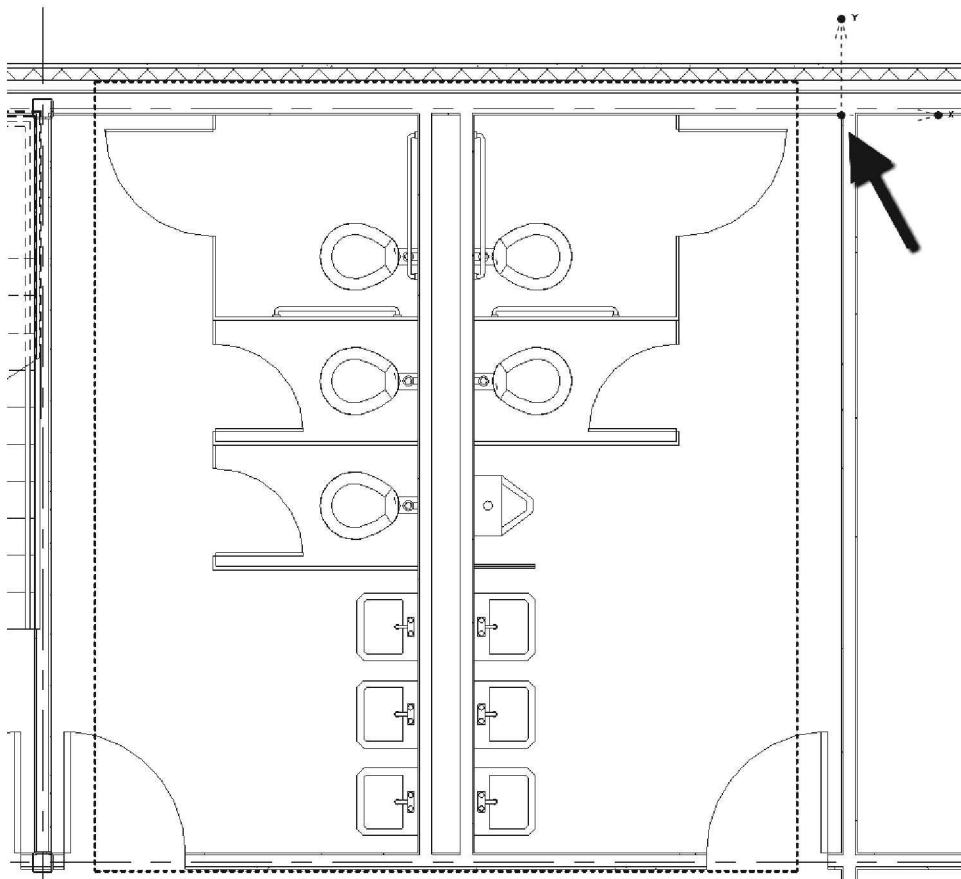

FIGURE 11-1.11 Repositioning the group's origin icon
33. Click on the *Origin* icon and drag it to the upper-right corner of the men's toilet room as shown in Figure 11-1.11.